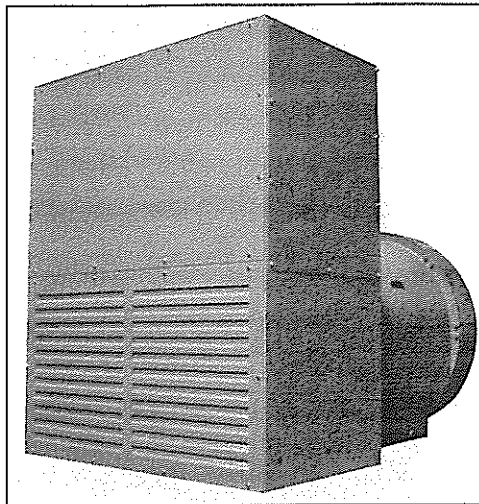

Figure 6-1
1. Remove conduit box covers (figures 6-1 and 6-2).